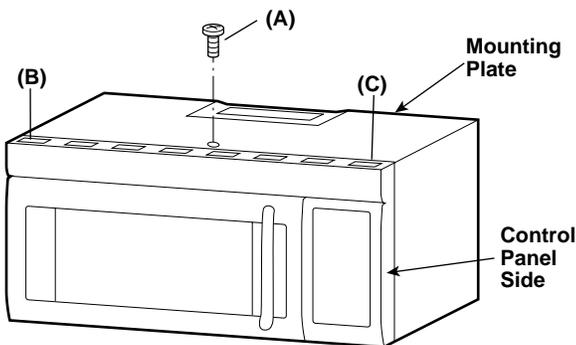
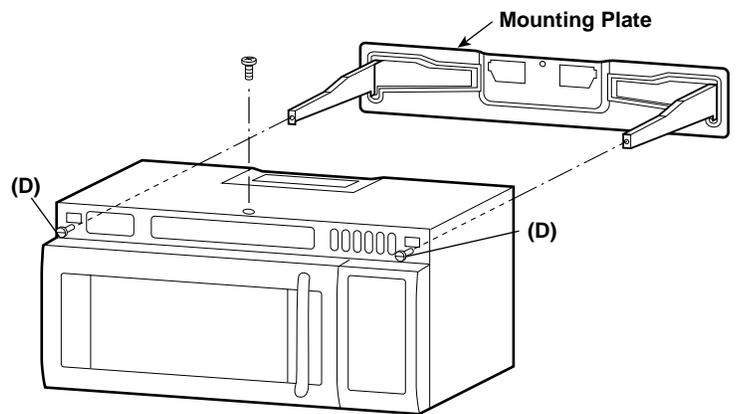

Figure 6
Figure 7
3. Remove and save Screw (A) as shown in Figure 6.
4. If your oven comes with the louver installed, push down carefully on the tabs (B) and (C) at the ends of the louver to disengage it. Pull the louver away from the unit and set aside.
5. Loosen the two Mounting Screws (D) which secure the Mounting Plate to the rear side of the oven. Remove the Mounting Plate. See Figure 7.